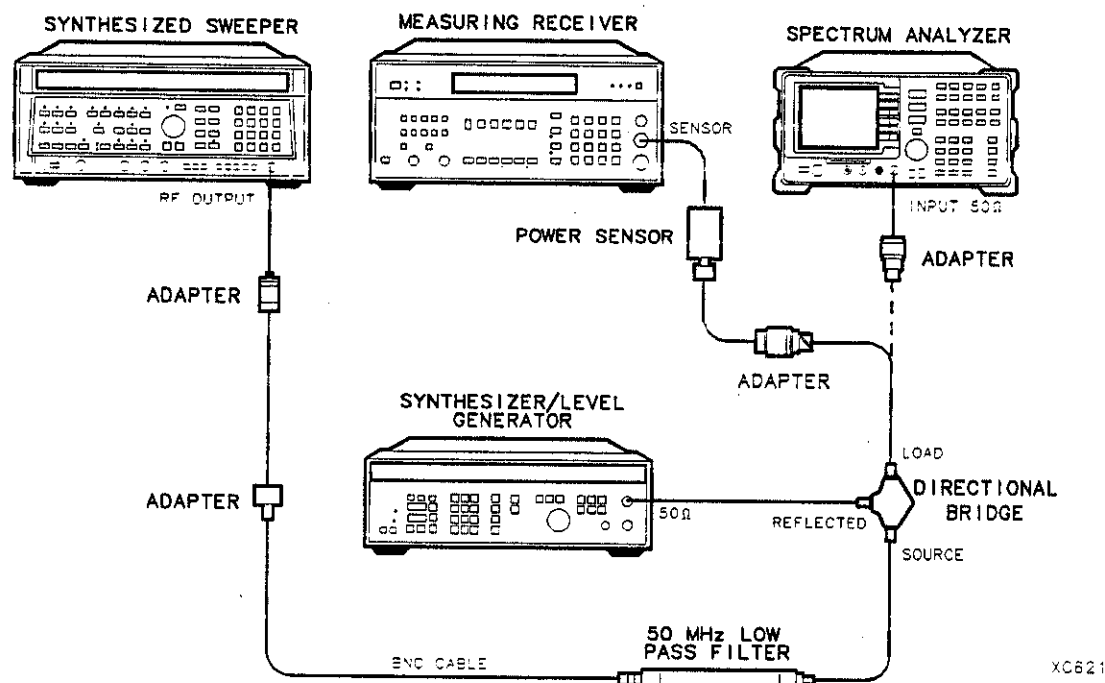

Figure 1-22. Third Order Intermodulation Distortion Test Setup
2. Connect the equipment as shown in Figure 1-22 with the output of the directional bridge connected to the 100 kHz to 4.2 GHz power sensor.